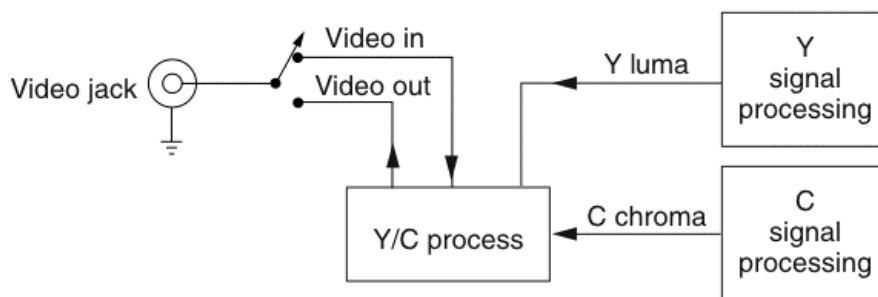

FIGURE 35-2 A typical 8-mm camera Y and C input/output circuits.
The video signal input circuits are switched into the input—either from the camera or external devices connected to the AV connector. Within the Samsung 8-mm camcorder, the camera luminance (Y) and chroma (C) signal is fed to the Y/C processor board video section. The video jack serves as the input and output jack with switching the video in or out from Y/C process board (Fig. 35-2).